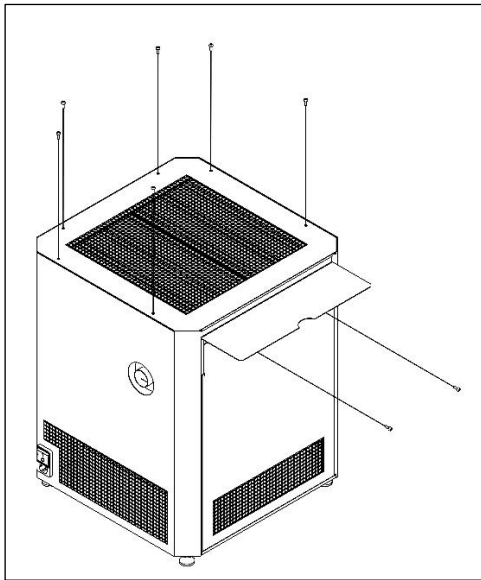

Figure 9
- 2.) Remove filter grille by loosening (6) screws on the top of the unit with a 2.5 mm Allen wrench. Also remove (2) screws holding access panel in place. See Figure 9.
- 12.) Reattach filter grille to frame using (6) screws. Tighten with an Allen wrench. See Figure 9.
- 13.) Reattach access panel to frame using (2) screws. Tighten with an Allen wrench. See Figure 9.